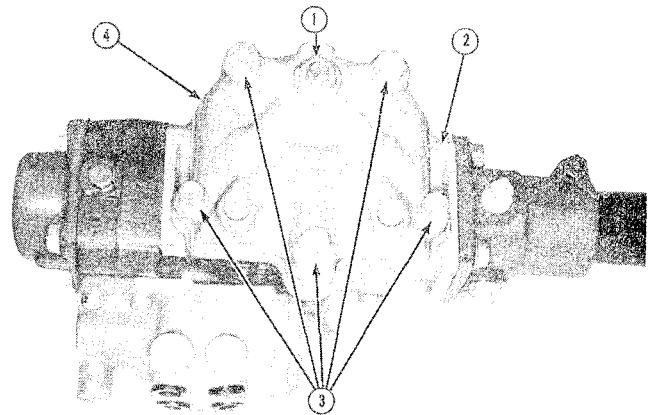

Figure 8-7
Remove cap screws (3, Fig. 8-7) and lock nut (1) that secure side cover (4) to housing (2).